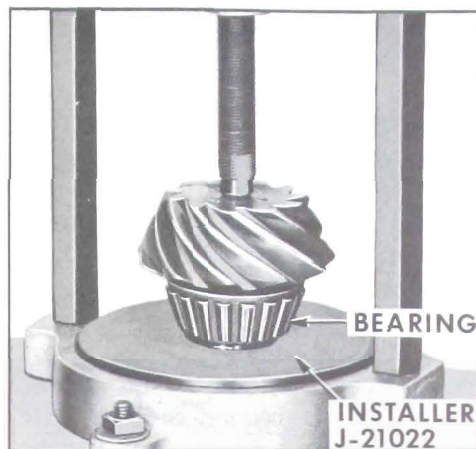

Fig. 6-23—Installing Rear Pinion Bearing
13. Position correct shim on pinion shaft and install rear pinion bearing. Use Installer J-21022 as shown in Figure 6-23.